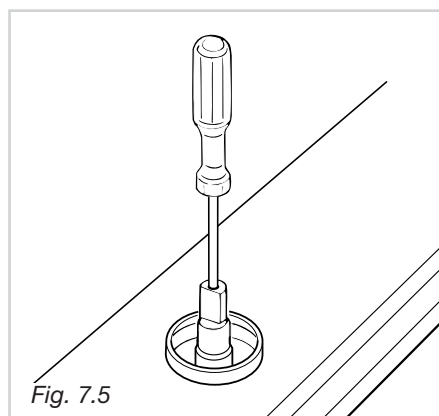

Fig. 7.5
**On gas valves provided with adjustment screw in the centre of the shaft (fig. 7.5):**